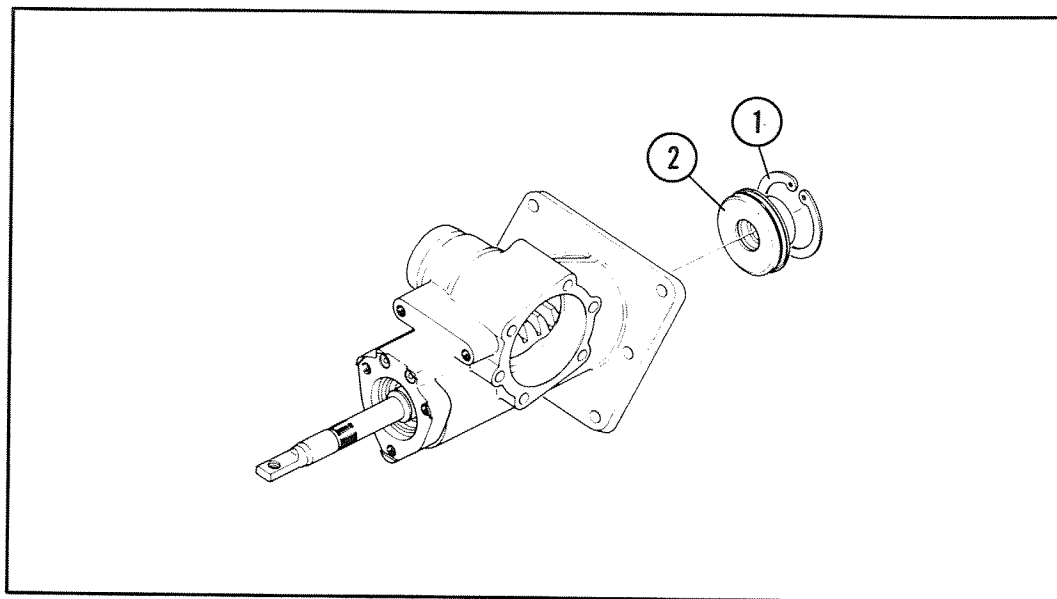

**Figure 35**
10. Align the sector shaft (1) with the ball nut teeth (2), Figure 35.